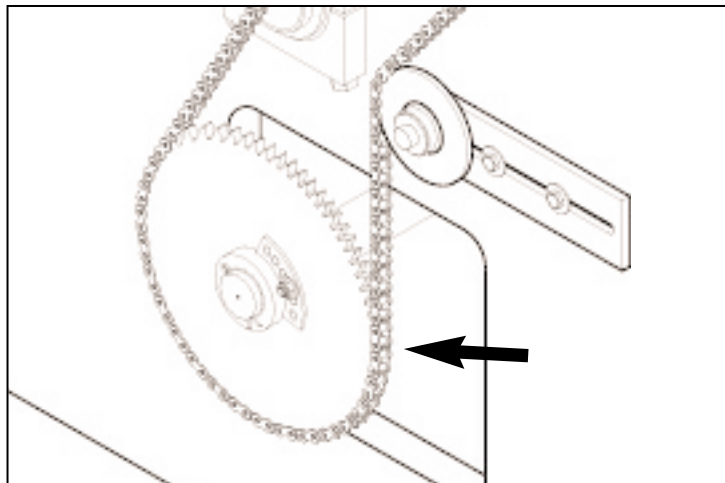

Figure 6.1 PALLET FEEDER DRIVE CHAIN.
6.1.5 Make sure the pallet feeder drive chain and lug chains (see figure 6.1 and 6.2) are well adjusted. To adjust those chains, follow the procedure presented on the next two pages.